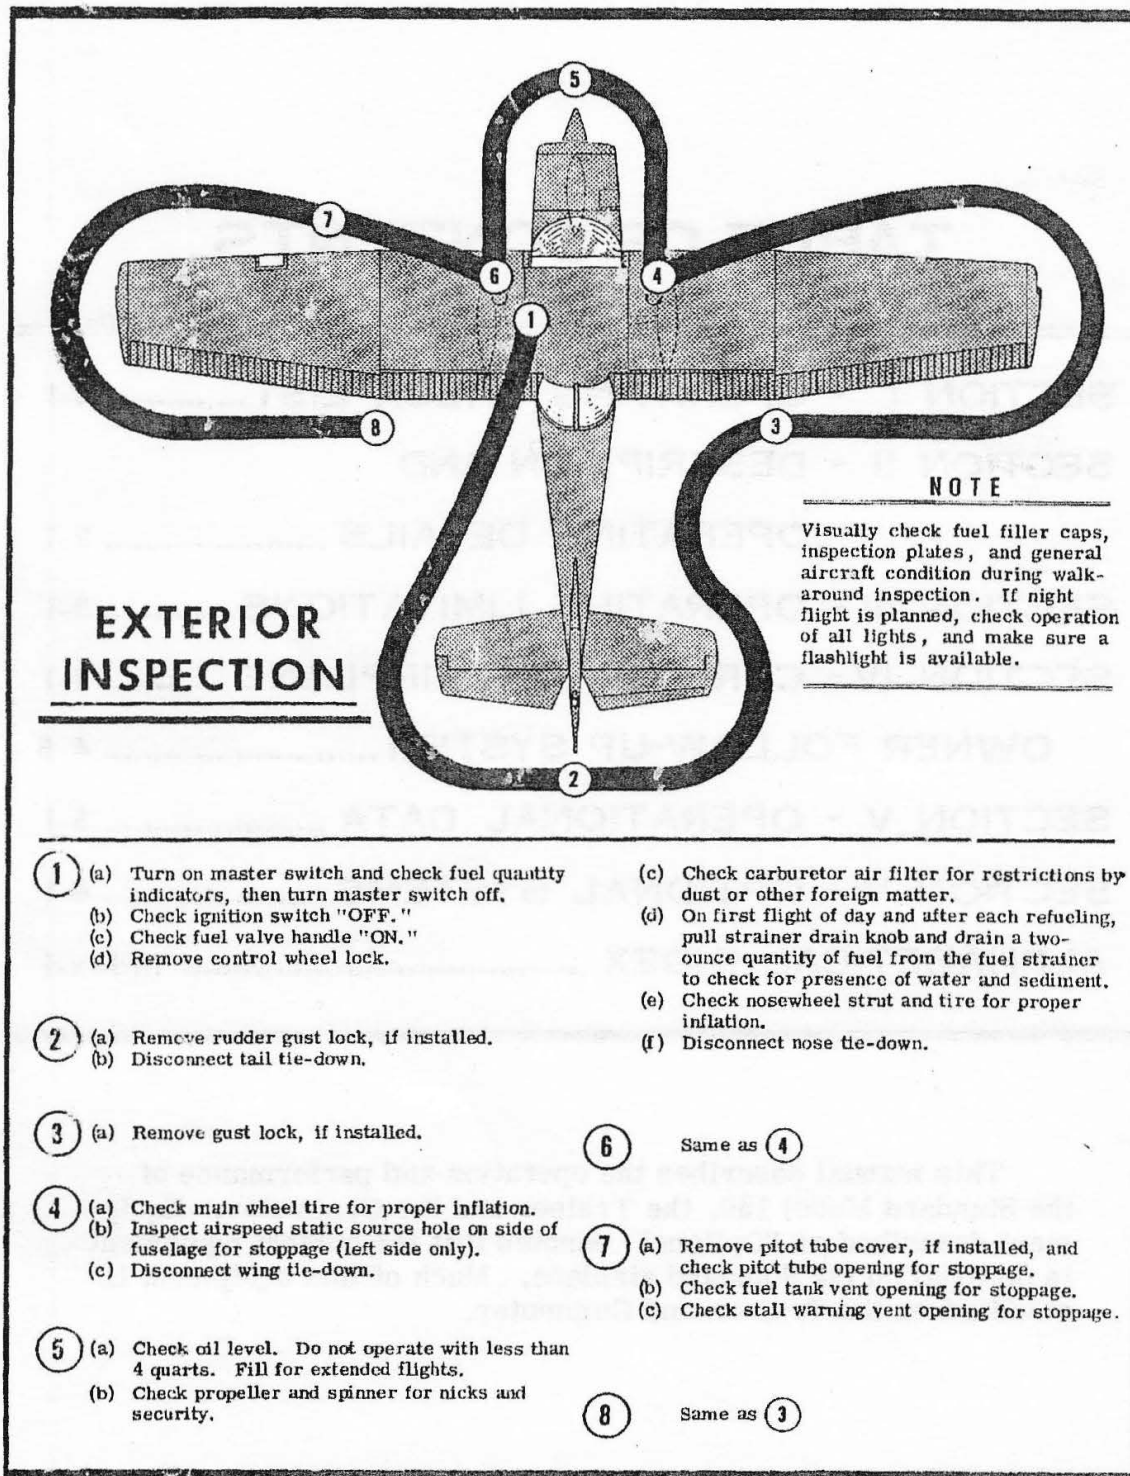

Figure 1-1.
- (1) Make an exterior inspection in accordance with figure 1-1.